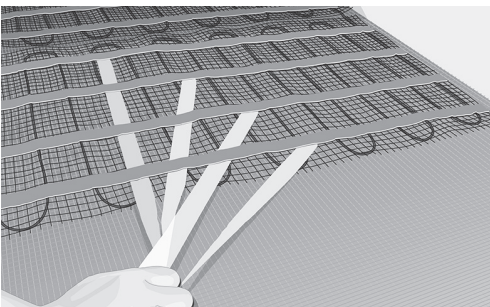

Fig. 8. Remove tape backing and fix mat runs
12. Once the mat(s) is positioned in accordance with your drawing and well fitted to the floor surface, fix the mat runs to the floor by removing the liner from the double sided tape and lightly press down the tape. Continue the procedure until the all of the mat has been fixed (Fig. 8).